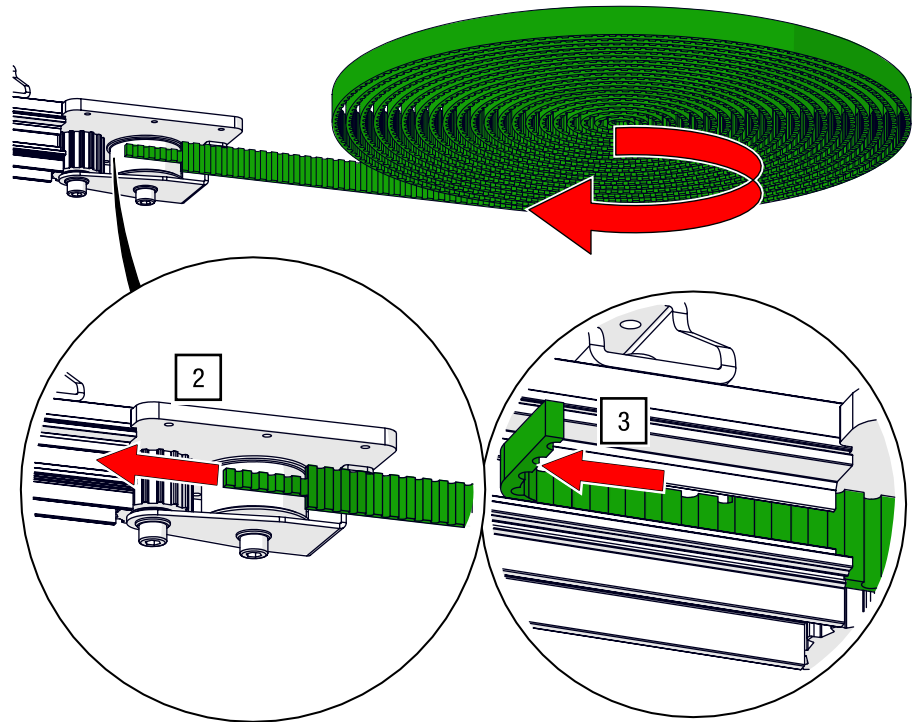

Fig. 78: Timing belt installation – Thread timing belt
2. Slide the master runner to the last deflection unit (open position) (see Fig. 78).
3. Carefully begin threading the timing belt into the BELT-TRACK track at the deflection unit with suitable protective gloves, if necessary, using pliers (see Fig. 78).